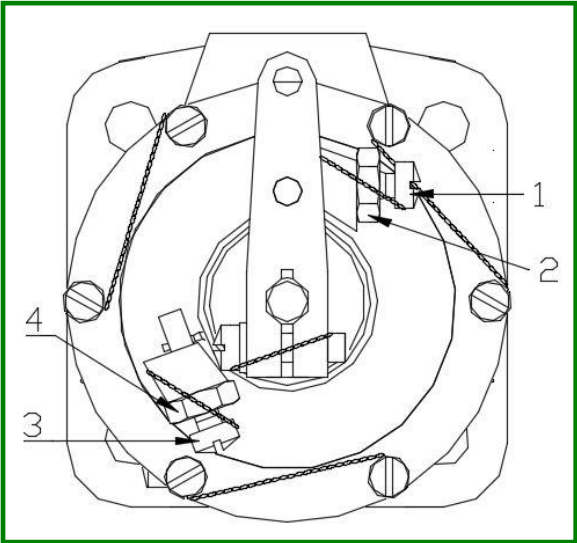

Figure 14
5.6.2 Governor Lever Adjustment (see Figure 14 + 15)
5.6.2.1 Remove the safety wire from the speed adjustment screw position 1 (see Figure 14) and loosen the nut to allow movement of the stop screw.